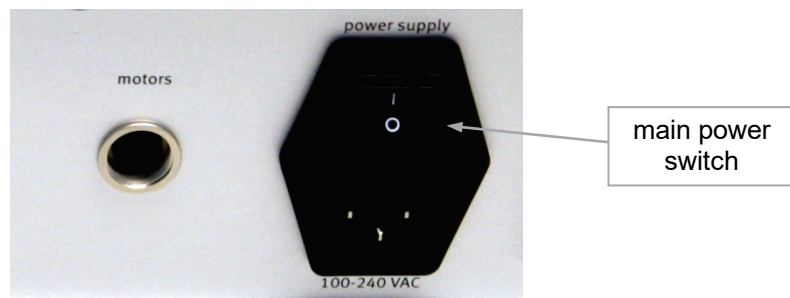

figure 4 – controller main power switch and socket
- connect the control unit power socket (visible on figure 4, under the main power switch) to a power point using a three prong grounded plug.